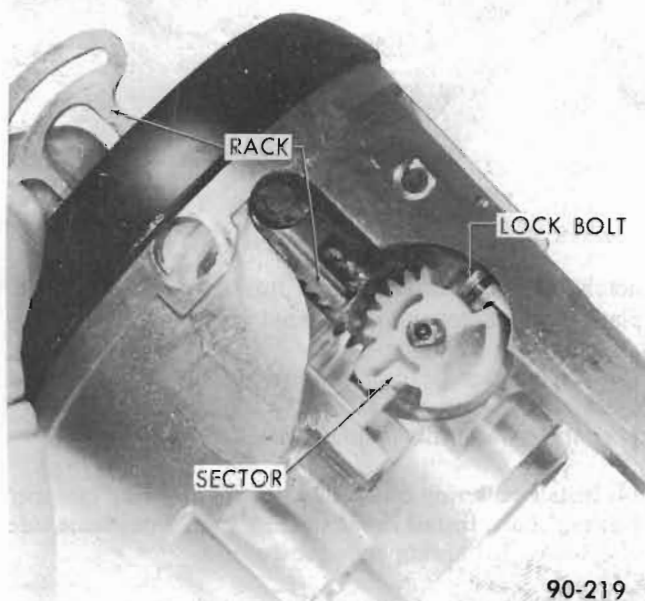

Figure 90-124 - Engaging Block Tooth on Rack to Sector
5. Install lock bolt and engage with sector cam surface. See Figure 90-124.